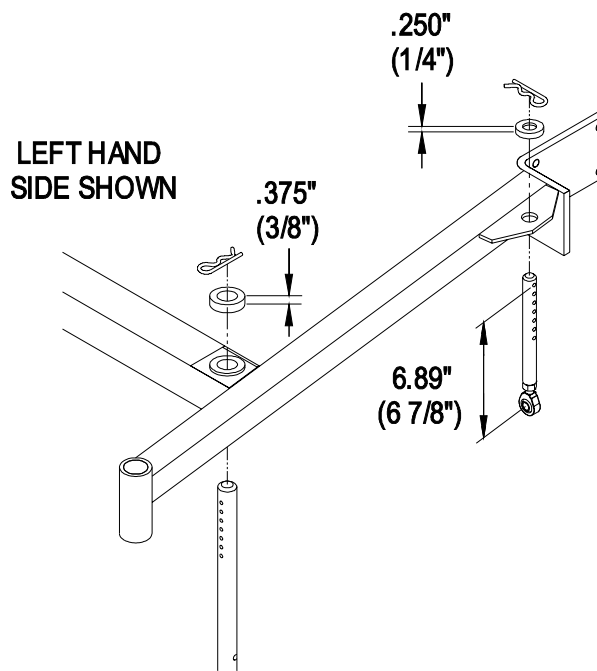

FIG 12
1. The front and rear hairpins are in the same holes with the proper spacers under the hair pins (See Fig 12).
3. The length of the rear deck support link assemblies are set to 6.89" (approximately 6 7/8") from the center of the balljoint to the center of the furthest hole (See Figure 12).